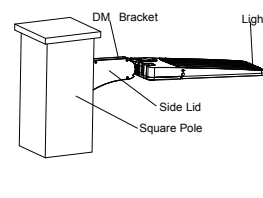

Figure 15
- Step 2: Put the connected wires into the junction box, then cover the junction box (Figure 15)